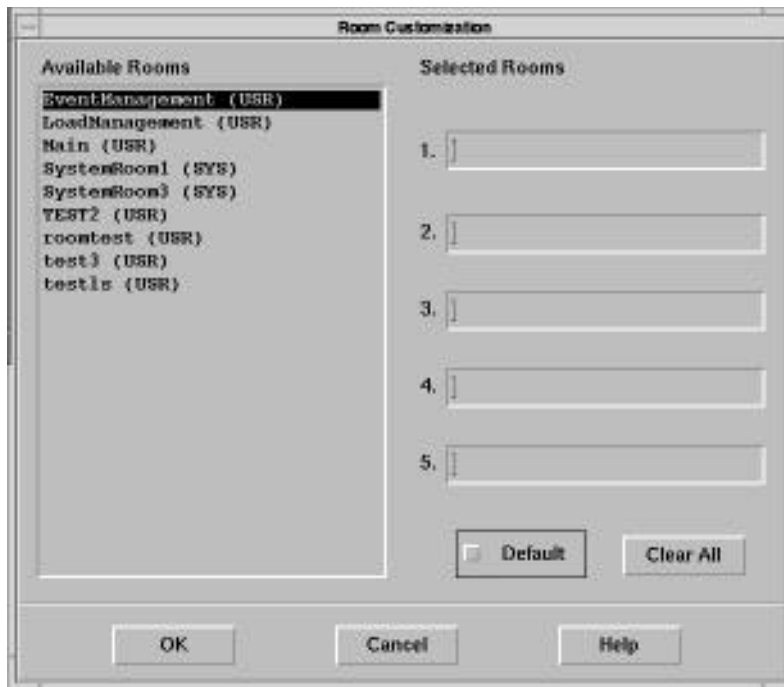

Figure 7.4.2-1. Room Customization Window
1. Open the Room Customization window (see Figure 7.4.2-1).